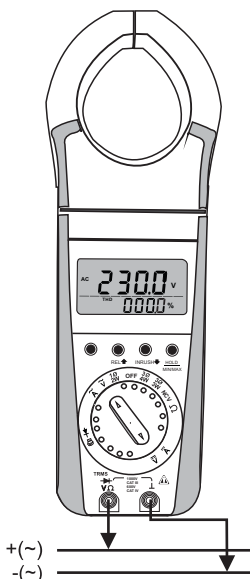

Fig 8.1 Voltage measurement on electrical systems up to 1000V
- ✦ Connect the test leads as shown in fig 8.1. The “⊥” socket should be connected to the lowest potential ground available.